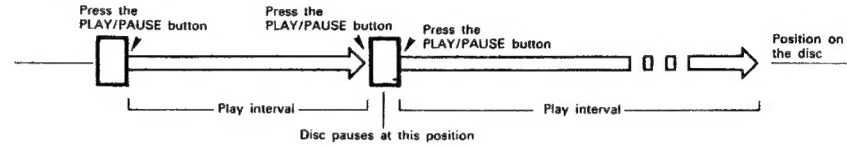

Figure 6
(7) Description of the PLAY/PAUSE, and CUE Operations
- The steps through which disc play is performed when the PLAY/PAUSE and CUE buttons are pressed are described with the aid of the following illustrations in Figures 6 through 8.
Pressing the PLAY/PAUSE button starts the disc play, the advancement of which is illustrated by the arrows of Figure 6. Pressing the PLAY/PAUSE button again during disc play causes the play operation to pause, and pressing this button once more causes the disc to be played again.